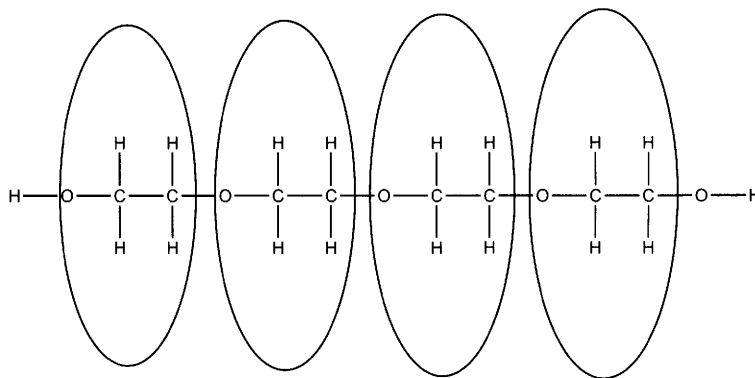

Figure 8
9. See Figure 8. The monomer units are marked with ovals.